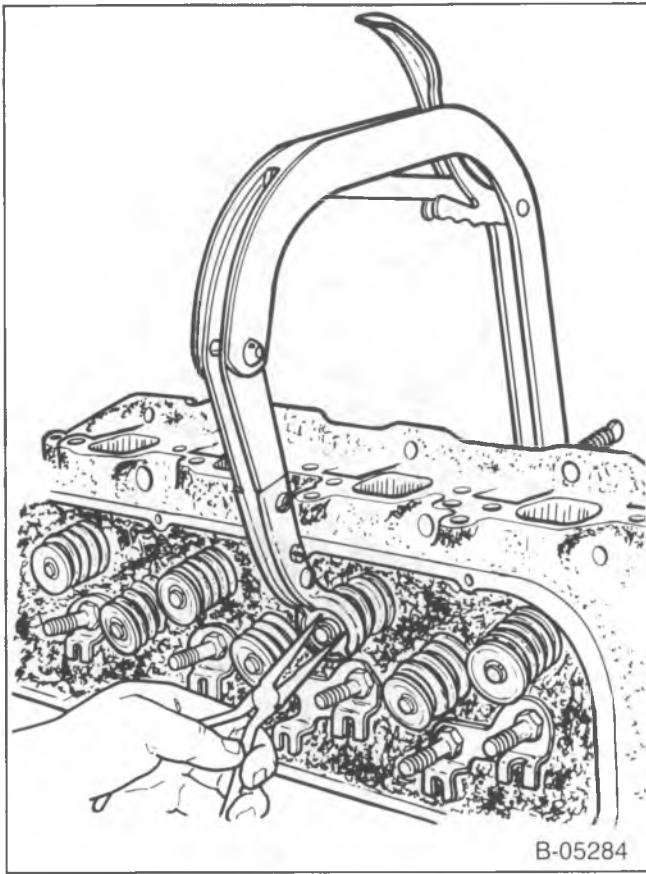

Figure 39—Compressing the Valve Springs
1. Valve keepers (251).
- Compress the springs (256) with J 8062 (figure 39).
2. Caps (253), shields (255), springs with dampers (256) and rotators (254).
3. O-ring seals (252) (if used) and seals (257).
- Compress the valve spring, using J 8062 (figure 39). Compress the spring enough so the lower valve stem groove can be clearly seen.
- 2. Rotators (254).
- 3. Seals (257).
- 4. Valve springs with dampers (256).
- 5. Caps (253).
- 6. Valve keepers (251).
- Compress the valve spring using J 8062 (figure 39). Compress the spring until the valve stem groove can be seen.